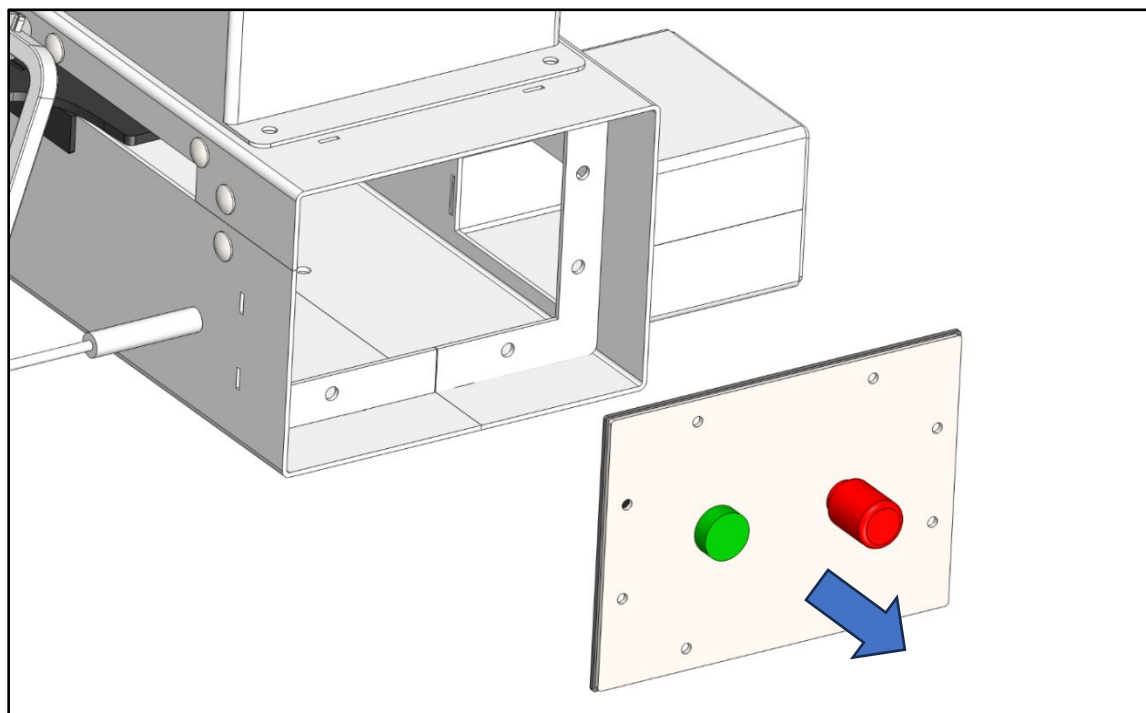

Figure 18 – End cap removed for inspection.
- At regular intervals (at least once every 6 months, more often in an especially dusty environment), pull the end caps off of the enclosure as shown in Figure 18 to inspect it for a build-up of rock and debris. When removing the end caps, be careful not to damage the end cap seal or the wiring that is connected to the buttons.